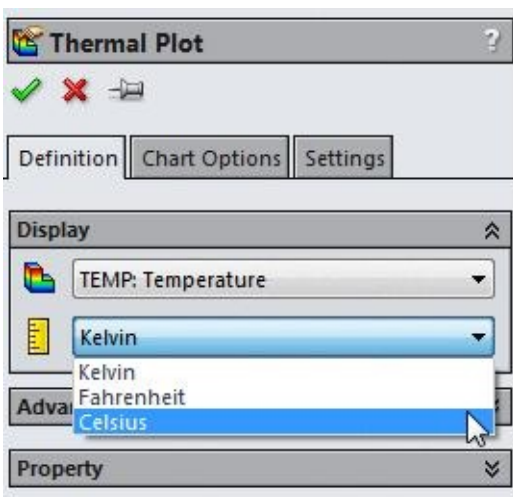

Figure-21. Definition tab of Thermal Plot PropertyManager
- Click on the **Definition** tab and then click on the second drop-down in the **Display** rollout; refer to Figure-21.